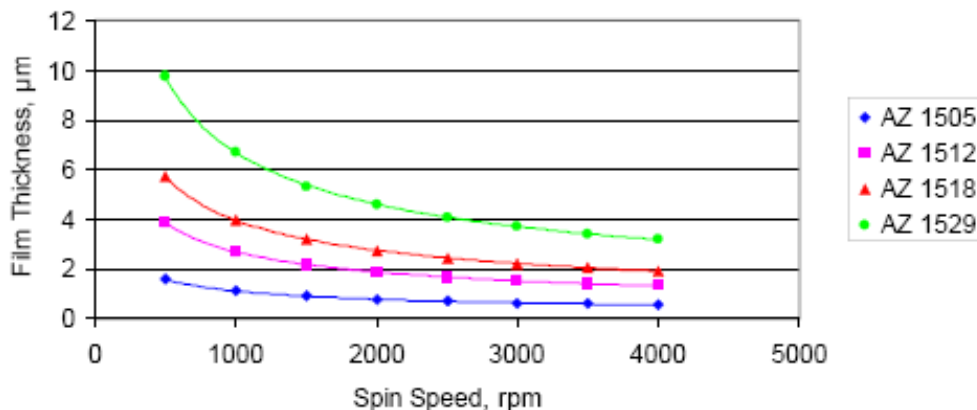

Fig. 1 Spin Speed Curve for AZ 1500 Photoresist Products
This process is to apply uniform, adherent and defect-free resist film with a desired thickness over the wafer. Usually it is conducted by using a spin-coater which rapidly spins the wafer. The final spin speed is around 2000-5000 RPM, which depends on the desired film thickness of a certain photoresist. Figure 1 shows the relation between spin-speed (RPM) and film thickness (μm) for AZ 1500 photoresists¹. The positive photoresist used in the *MicroFabrication* Laboratory is AZ 1512. The spin-coater is located in the right hand side of the photolithography bench, see Equipment 1 and 2. An initial set-up is needed before conducting the spin-coating.
3. Depending of the desired film thickness, see Fig. 1, input the correct recipe into the spin-coating through the control buttons shown in Equipment 2. To scroll up/down press the + and – buttons, press Enter to be able to change the desired number, right and left arrow buttons navigate through the digit's number, to increase or decrease the digit press + or – buttons.